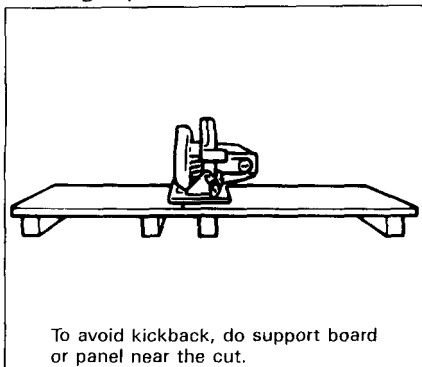

Fig. 1
**Support large panels to minimize the risk of blade pinching and KICKBACK.** Large panels tend to sag under their own weight. Supports must be placed under the panel on both sides, near the line of cut and near the edge of the panel as shown in Fig. 1.